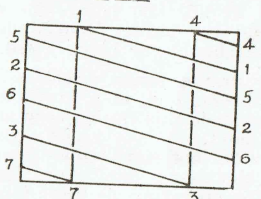

Fig 2
2. **Interlacing.**—See Fig. 2. As is seen the scansion does every second line then starts again and does the others. This reduces flicker to a negligible amount.